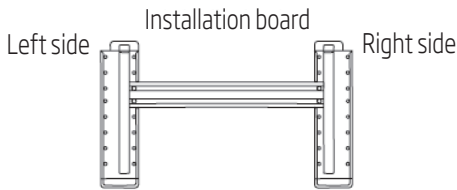

Fig. 4
- Drill holes as Fig. 4 shows. The hole, 80mm in diameter, should slightly slide down outwards.